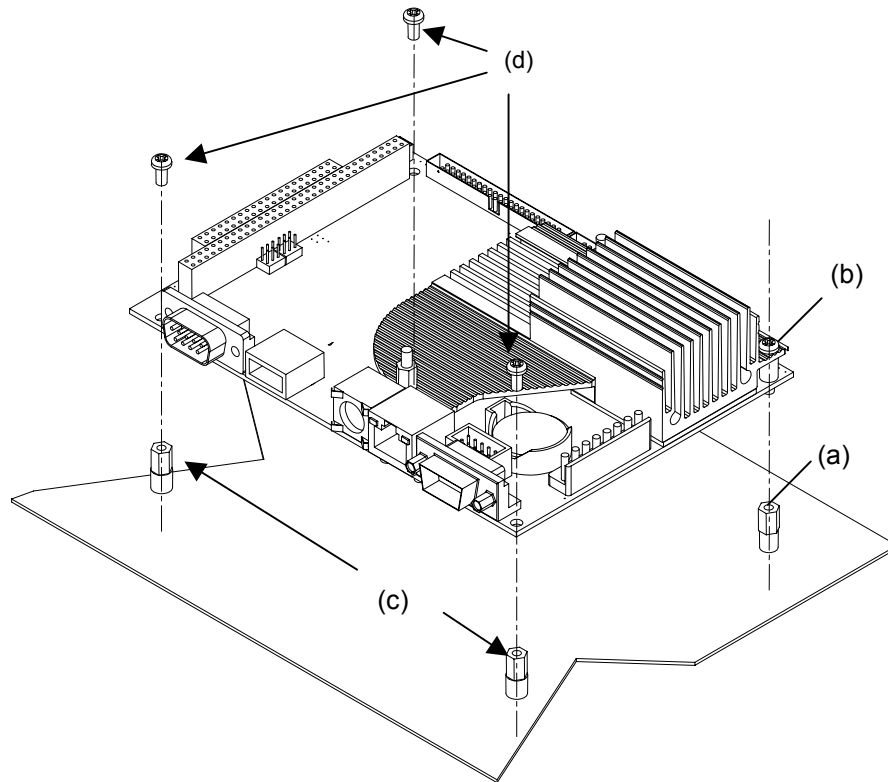

Figure 2.
2. Screw the pillar (a) removed from the SBC84600 and another three pillars (c), which have same height with the pillar (a), to the chassis as shown in the Figure 2.